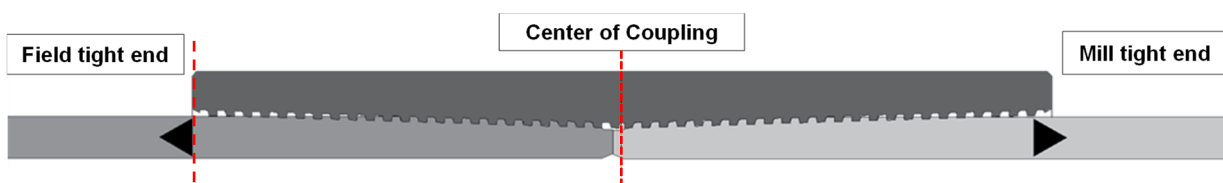

Figure.1 Correct Make-up Position
- The base of the 3/8" triangle stamp on the pipe body is aligned with the coupling face as Figure 1.